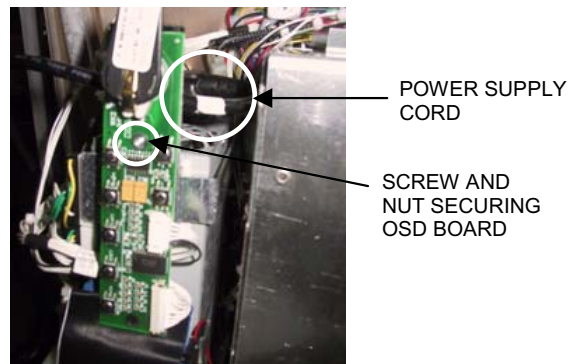

FIGURE 3 - OSD BOARD
10. Close the monitor assembly completely, and fasten with 2 screws in the back of the bezel, 1 security screw (17") or security washer and nut (19" & Widescreen), and 1 screw in the front (through the marquee). See Figure 3.
5. Disconnect the power cord from the power supply. Remove the wing nut securing the OSD board and detach the board from the Velcro on the power supply bracket. Carefully set the OSD board aside. See Figure 3.